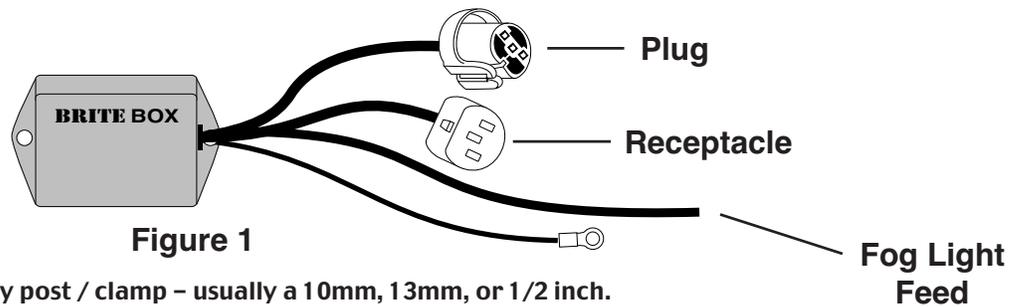

Figure 1
STEP 2: Find a location to mount Brite Box. Make sure car's headlight plug can reach the receptacle (see Fig. 1) of Brite Box, and that Brite Box's plug (see Fig. 1) can reach headlight. The black wire of Brite Box must be able to reach the negative (-) battery cable or another solid chassis ground.
STEP 3: On the side of the vehicle where you are installing BRITE Box, remove the car's headlight plug from the headlight. Take the just removed headlight plug and fully insert it into Brite Box's receptacle (see Fig. 1).
STEP 4: Install the headlight plug (see Fig. 1) from Brite Box into your headlight. Make sure plug is fully seated.
STEP 5: Route Brite Box's FOG LIGHT FEED WIRE (see Fig. 1) to fog light on same side of truck where you installed Brite Box. Brite Box's fog light harness only needs to be connected to one fog light to work both of them. Make sure wires do not pass over any rough / sharp edges that can wear through the insulation and cause a short circuit over time. Use supplied cable ties to secure wire from fog light harness in a neat and tidy manner.